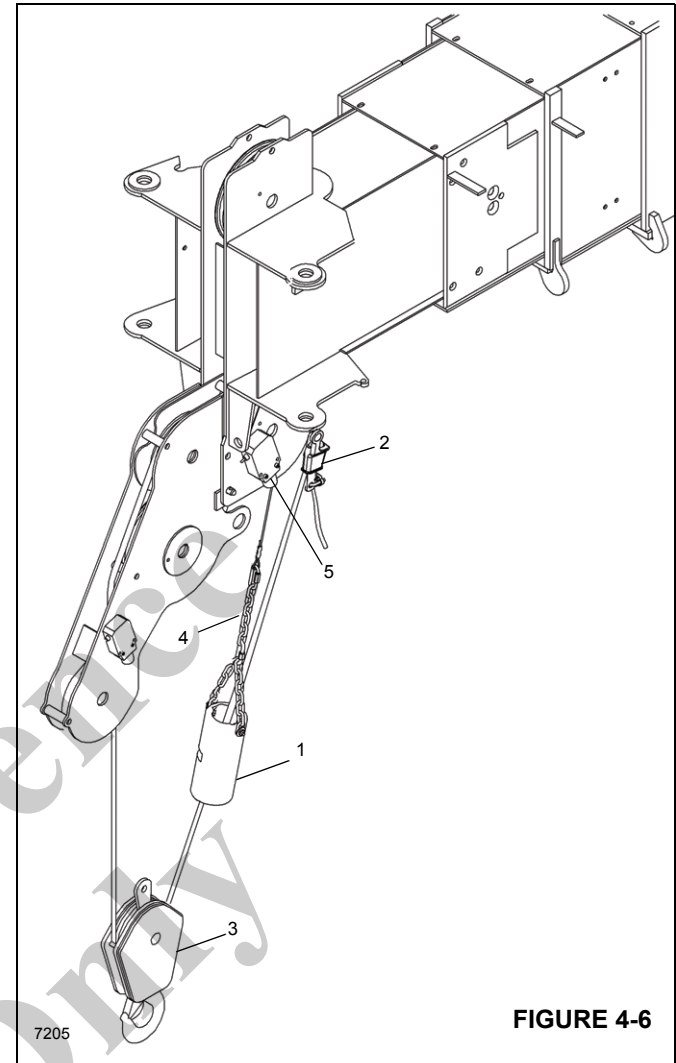

FIGURE 4-6
Reeving for Wireline machines using a 2/3 line hook block is shown in Figure 4-6. Install the Anti-2-block weight (1) on the wedge socket (2) side of the hook block (3). Connect the Anti-2-block chain (4) to the upper switch assembly (5).